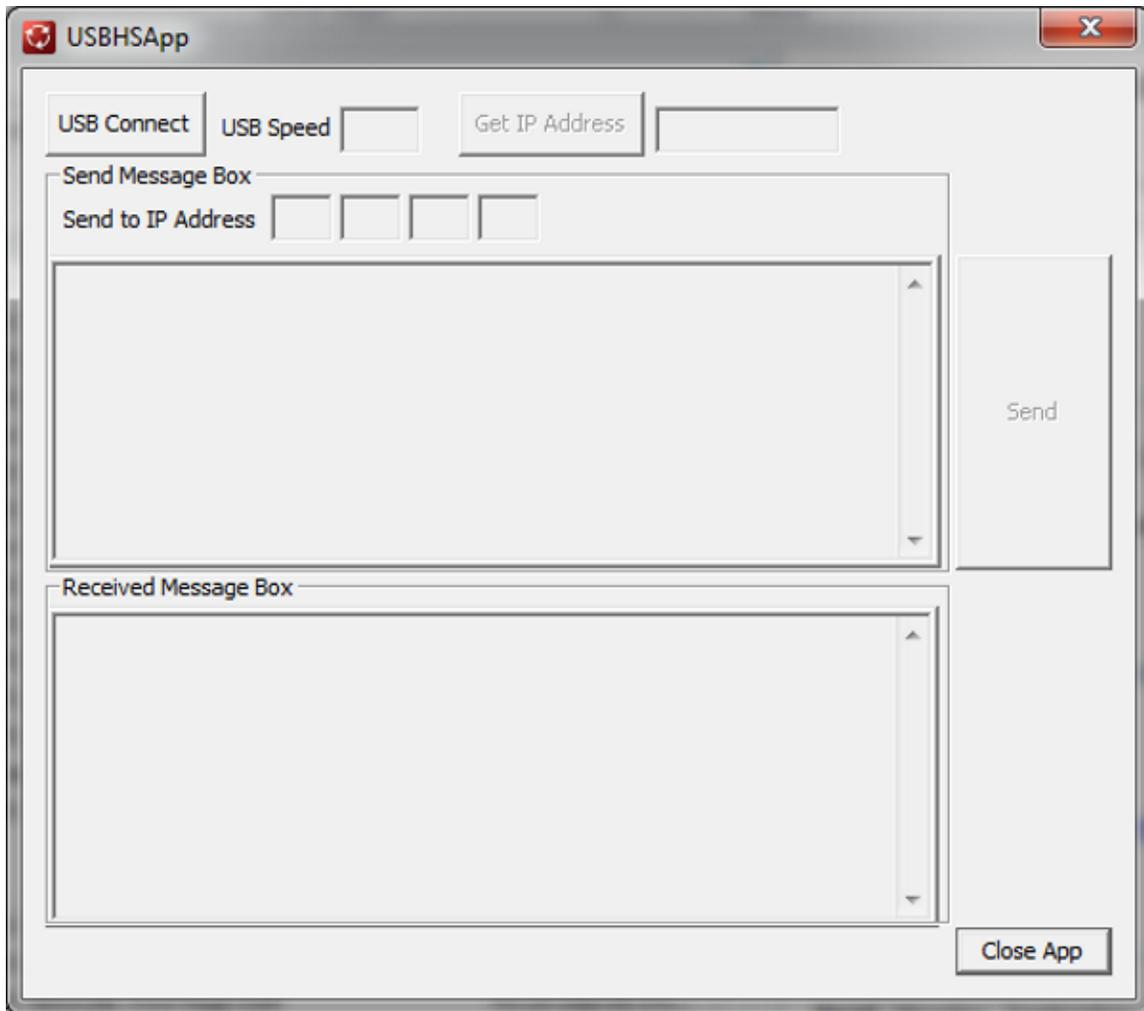

Figure 21. Running the USBHSAApp
- The device has now been successfully enumerated. Now connect to the device using the USBHSAApp provided in the project collaterals. Make sure that the Ethernet cable is connected to the RJ45 jack on the board and the switch. Start the USBHSAApp on the local Windows machine. Click on the *USB Connect* button (see Figure 21).